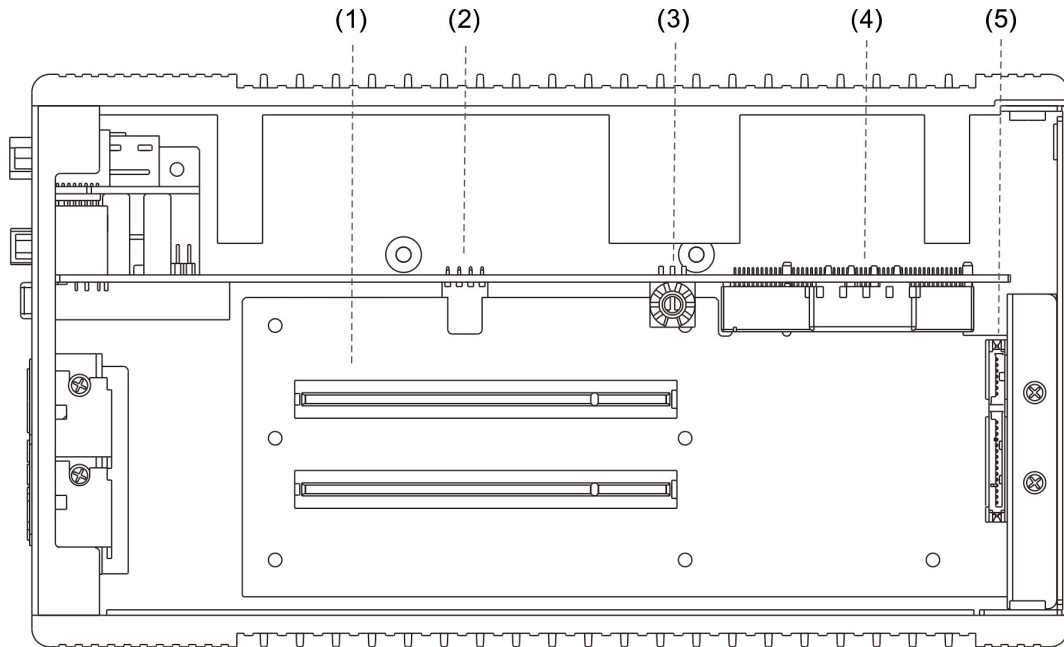

Figure 2.4.1 Top view of the internal of MH1 Series (two PCI slots)
1. PCI & PCI (two PCI slots) as shown in Figure 2.4.1.